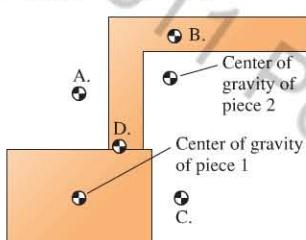

FIGURE Q7.18
18. I A machine part is made up of two pieces, with centers of gravity shown in Figure Q7.18. Which point could be the center of gravity of the entire part?